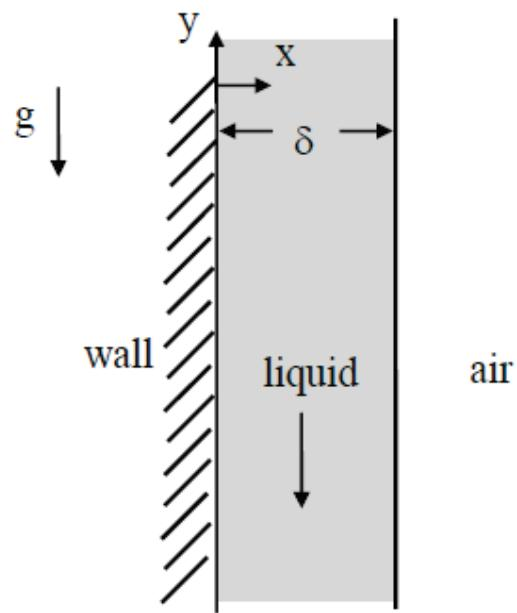

Figure 4 / Rajah 4
- (c). A viscous, incompressible, Newtonian liquid flows in steady, laminar, planar flow down a vertical wall (Figure 4). The thickness,  $\delta$ , of the liquid film remains constant. Since the liquid free surface is exposed to atmospheric pressure, there is no pressure gradient in the liquid film. Furthermore, the air provides a negligible resistance to the motion of the fluid. Determine: